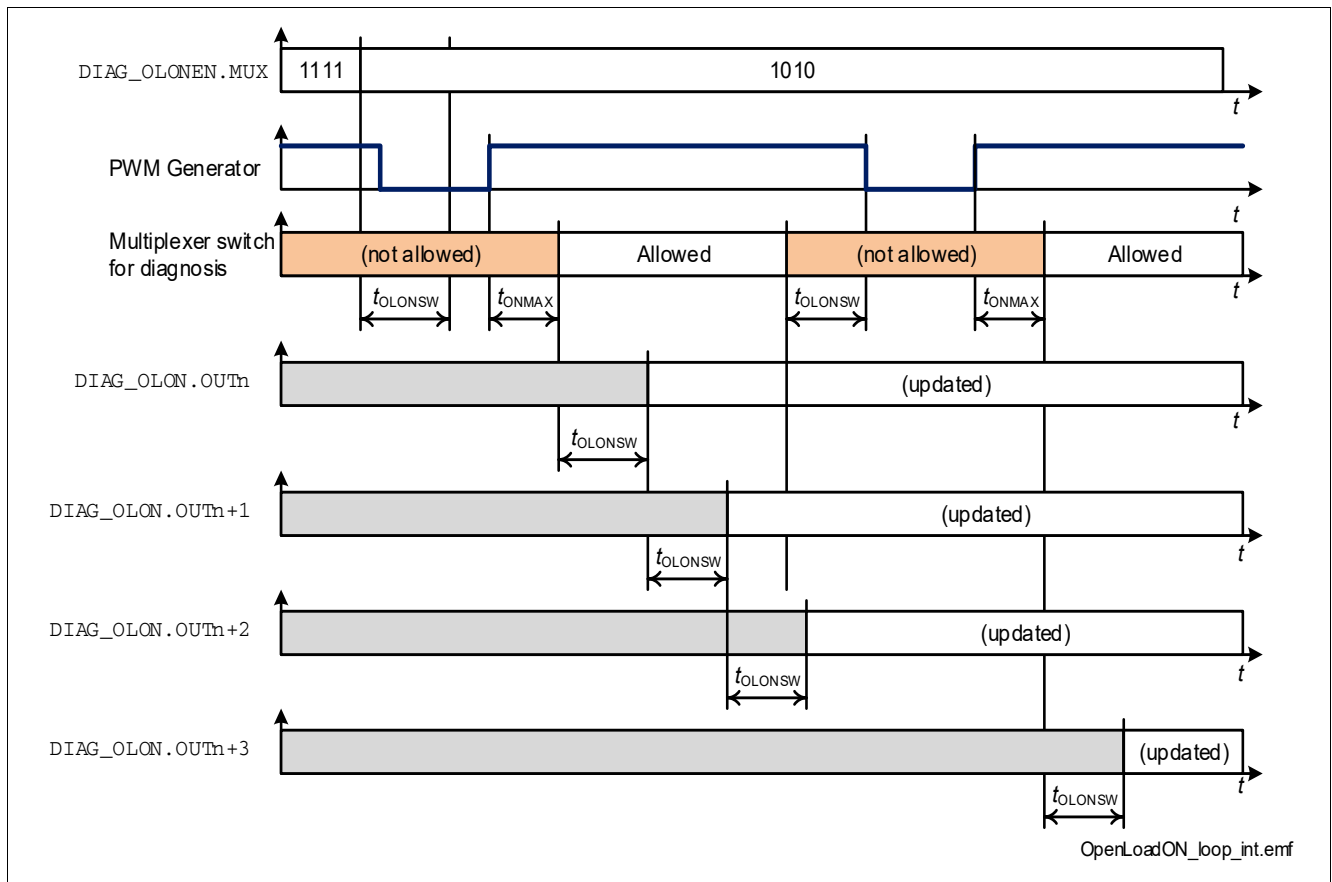

Figure 27 Open Load at ON timings (diagnosis loop - channels driven by internal PWM Generators)
**Figure 26** shows the timing in case of channels driven directly by micro-controller, while **Figure 27** represents the case with channels driven by internal PWM Generators.